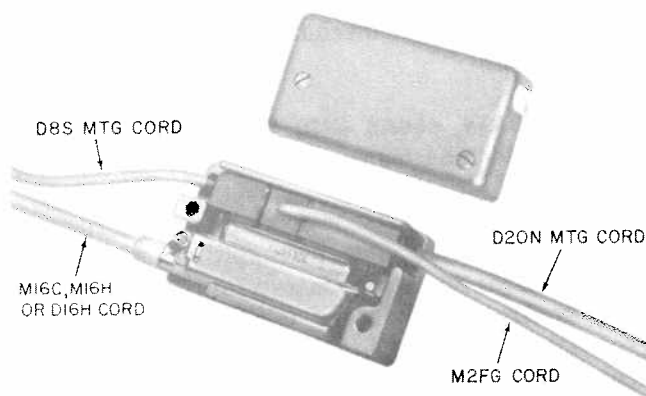

Fig. 6—223-Type Adapter
2.17 The 223-type adapter (Fig. 6) interconnects the 680-type transmitter, the 108-type loudspeaker set, the 85B1 power unit and certain codes of telephone sets. The adapter consists of a plastic housing and a cord with a 50-pin connector on one end and either spade-tipped terminations or a post-type connector on the other end. The connector end accepts plugs from the transmitter and loudspeaker set and the plug from an M2FG cord which connects to the 85B1 power unit. The cord from the adapter connects to the telephone set. Three codes of the 223-type adapter are described as follows.